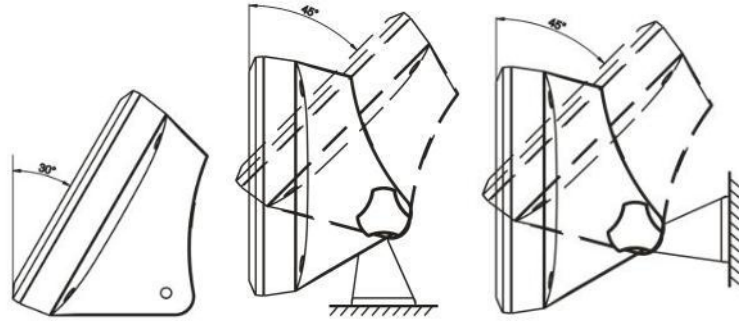

Figure 2-6: Adjusting the Bracket for Mounting on Wall or Column
5. The bracket allows a wide range of adjustment, as shown in Figure 2-6.